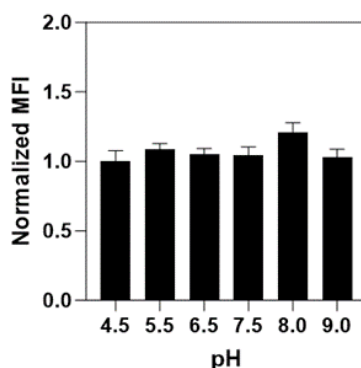

Figure 3: CytoCHECK SPACHIP® OHrad ROS Single-Detection Kit is not pH-sensitive.
5. One of the main advantages of CytoCHECK SPACHIP® OHrad ROS Single-Detection Kit is that **OHrad ROS SPACHIPS are not sensitive to pH changes** (Fig. 3), avoiding measurement artifacts due to pH variations in experimental setup.